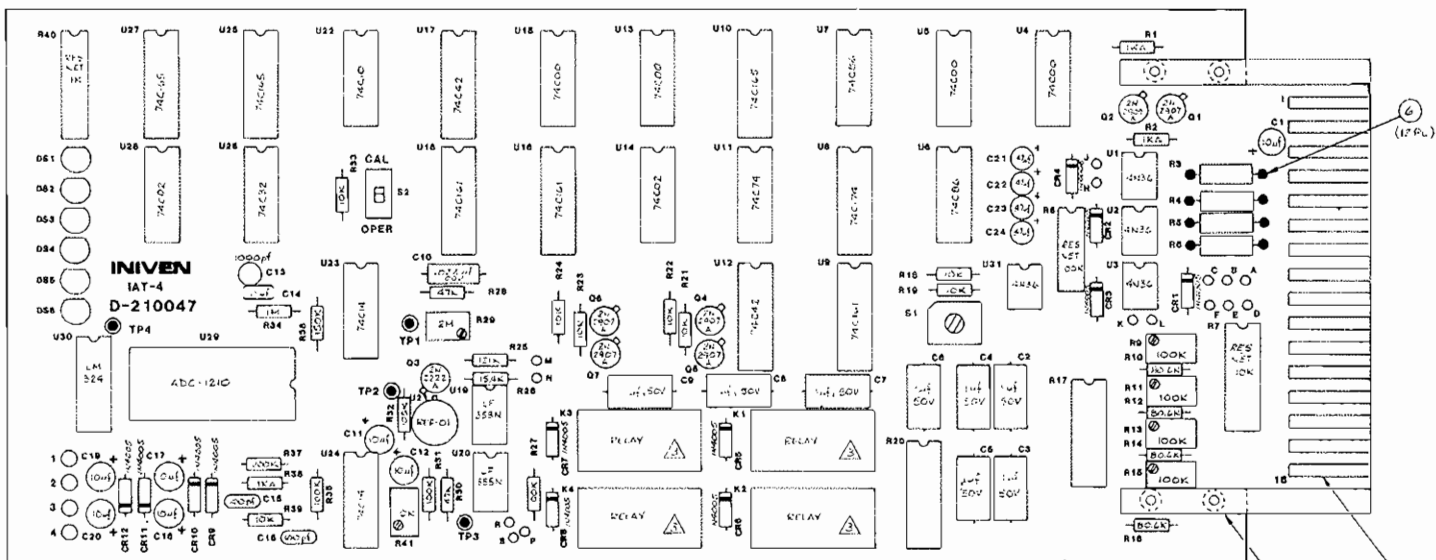

Figure 7. Printed Circuit Board Assembly A1
5.11 **Input Range Modification.** The standard configuration of the IAT is for unipolar inputs with 10V range (0-10V). Bipolar inputs and inputs with a range of 5V can be accommodated by cutting the appropriate etched jumper on printed circuit board A1 (see Figure 7) and installing the appropriate jumper wires, as listed in Table 5-5. For bipolar ranges, set TP4 on printed circuit board A1 (Figure 7) to + 5 volts $\pm .001$ volt with respect to terminal 2 using potentiometer R41. This setting is made at the factory and should not require readjustment in the field. All four analog inputs must be scaled to the same range.
5.12 **60Hz Rejection.** The input normal mode (60 Hz) rejection is directly related to the input time constant. Resistor networks R17 and R20 on printed circuit board A1 (Figure 7) control both parameters as indicated in Table 5-6. The response time should be selected to be not longer than the update interval of Table 5-7, 1300ms is standard. If 1 channel is selected only 470ms results in faster updating. Table 5-7 gives update times for various baud rates and number of analog channels. For update intervals of less than 650 milliseconds a similar modification should be made to the matching IAR Analog Receiver.
- (1) Loosen captive retaining screw and remove IAT from frame.
- (2) Plug IAT into Extender Module.
- (3) Install Extender Module in space vacated by IAT.
- (4) Set channel select switch on printed circuit board A1 (Figure 7) to the associated number of the channel to be calibrated minus 1. Position 0-3 of S1 corresponds to analog channels 1-4 respectively.
- (5) Set CAL/OPER switch S2 to CAL.
- (6) Connect (+) terminal of analog input channel being calibrated to TP2 and (-) side to the circuit common.
- (7) Adjust the associated input potentiometer (R9/CH1, R11/CH2, R13/CH3, and R15/CH4) counter clockwise until LED DS1 extinguishes.
- (8) Slowly rotate the associated potentiometer until LED 1 illuminates indicating 100% of full scale. Do this over a several second time period. Be sure not to increase the pot rotation once the 100% DS1 LED is illuminated or error will be introduced. For certainty, hunt back and forth with the pot so that DS1 is just on, a flickering is acceptable if it exceeds 50% duty. NOTE: It takes the system several seconds to stabilize after any large pot rotation, and less time for smaller rotations.
- (4) Ground Frequency Counter to terminal 2 of connector on printed circuit board A1 (see Figure 7) and connect test probe to TP1.
- (5) Frequency Counter should indicate a frequency of one-half (1/2) the baud rate, if not, proceed to step 6.
- (6) Rotate adjustment screw on potentiometer R29 to obtain desired frequency indication on the Frequency Counter.
- (7) Disconnect Frequency Counter from IAT.
- (8) Remove Extender Module from frame and unplug IAT from extender Module.
- (9) Install IAT in frame and secure with captive screw.
parts for the major components of the IAT. Figures 7 and 8 exhibit the parts for printed circuit board assemblies A1 and A2, respectively.